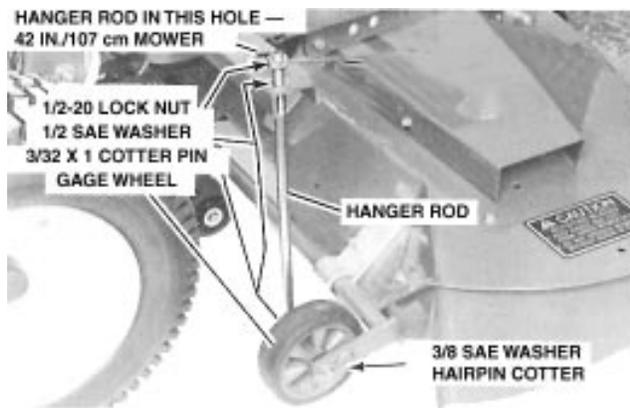

Figure 21
3. Remove the L-shaped hanger rods and gage wheels from the gage wheel arms (Fig. 21).